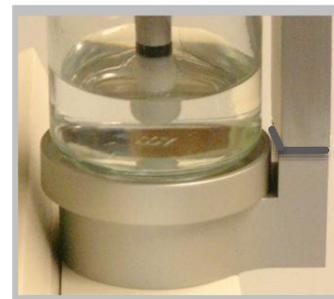

Fig. 5.3: Inserting humidifier into the device
6. Insert humidifier into the fitting on the top of the device, at the back. The connecting tubes protruding from the humidifier slide down into the device as shown in Figure 5.3.